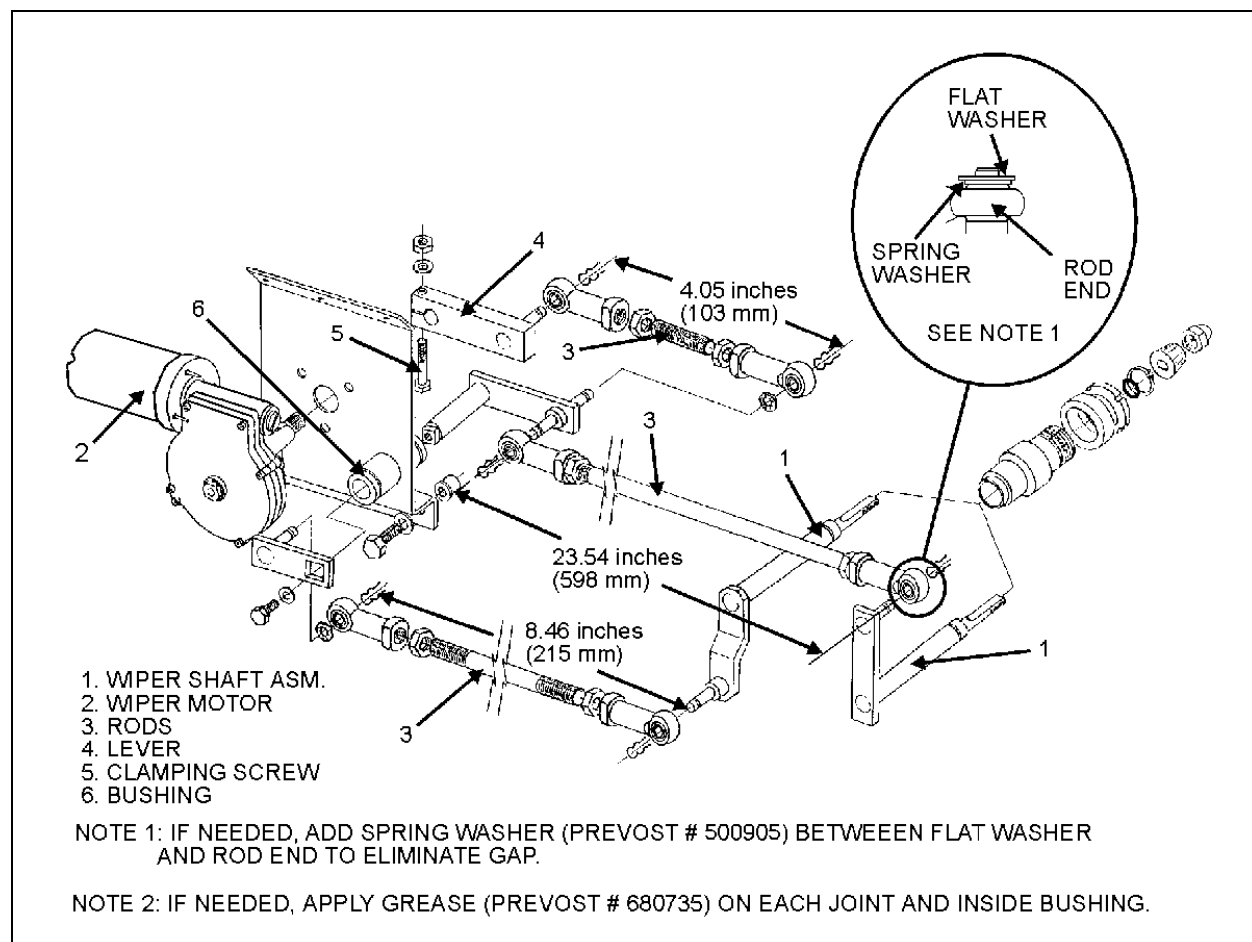

FIGURE 41: UPPER WINDSHIELD WIPER INSTALLATION
7. Loosen the bolt retaining the lever at the end of the motor driving shaft (Figure 41).